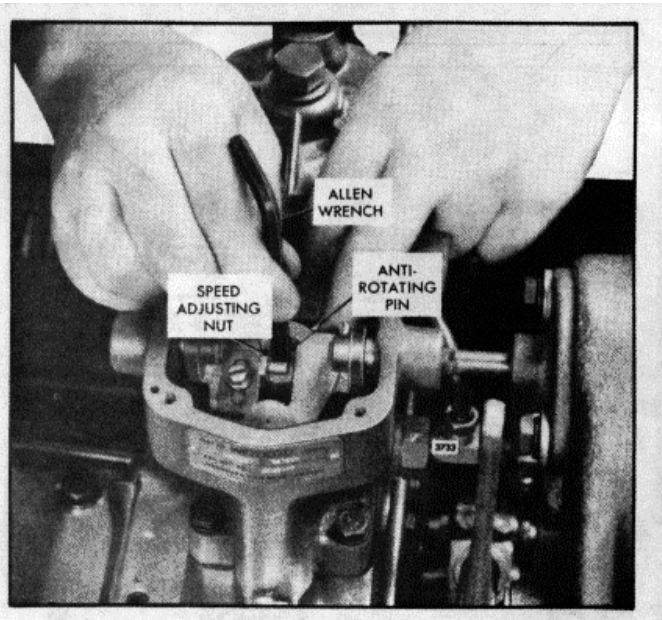

Fig. 13. - Turning High Speed Adjusting Nut
3. Turn the high speed adjusting nut up to decrease or down to increase the speed (Fig. 13).